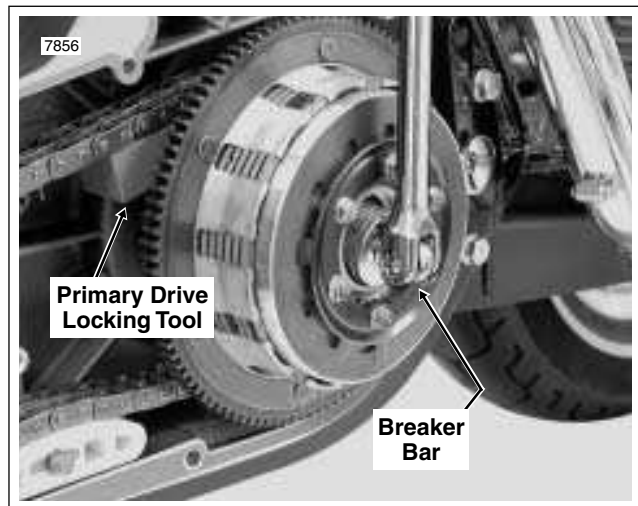

Figure 6-20. Place Primary Drive Locking Tool and Loosen Clutch Hub Mainshaft Nut
- Reverse the position of the primary drive locking tool. With the flat side against the upper strand of the primary chain, insert stepped side of tool into teeth of clutch sprocket. Using a breaker bar and 1-3/16 inch socket, turn the clutch hub mainshaft nut in a clockwise direction until loose. See Figure 6-20.